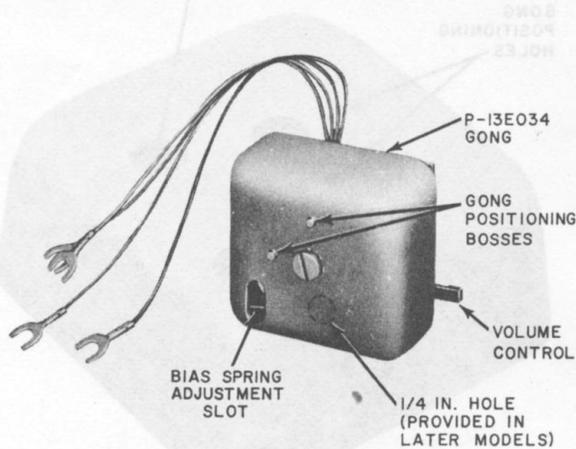

Fig. 3—G1A Ringer
2.04 The G1A ringer (Fig. 3) is a biased ringer having a single gong which also serves as a cover and an external volume control with three positions: full volume, low volume, and off. Subscriber operation to off position is prevented by a screw which is removable at the option of the installer.
- (1) Loosen gong (cover mounting screw on top of ringer approximately one turn).
- (2) Tilt gong upward in the area of bias spring adjustment slot (Fig. 3). This provides space for repositioning bias spring.